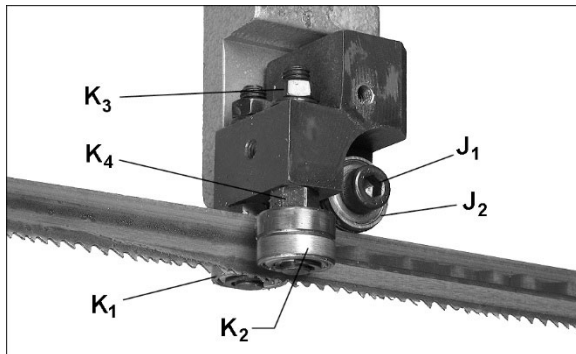

Figure 7-7: blade guide bearings
2. Loosen screw (J1, Figure 7-7) and adjust back bearing (J2) to approximately 0.002 to 0.003 inches from back edge of blade. Tighten screw (J1).